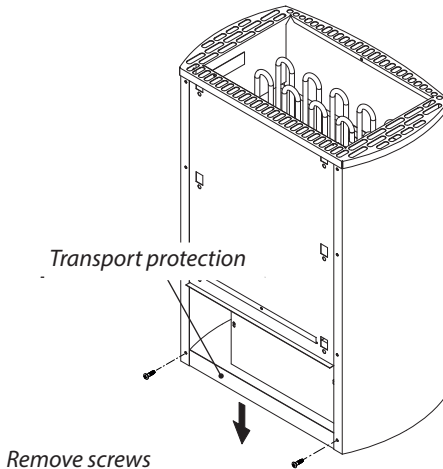

Fig. 4
- First remove the transport locks by releasing the two lower screws on the rear (see Fig. 4) and remove the lock by pulling downwards.